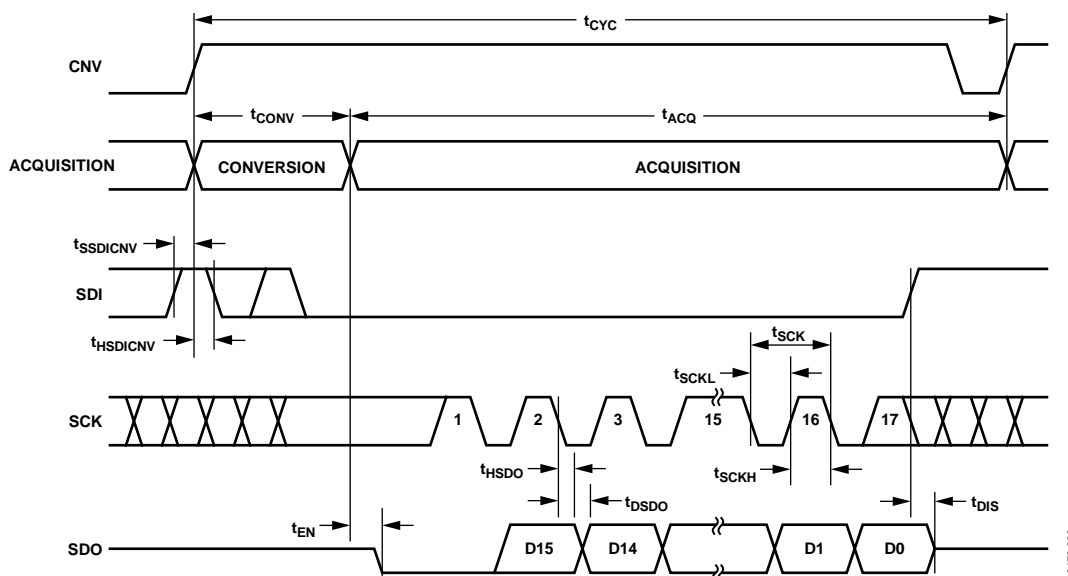
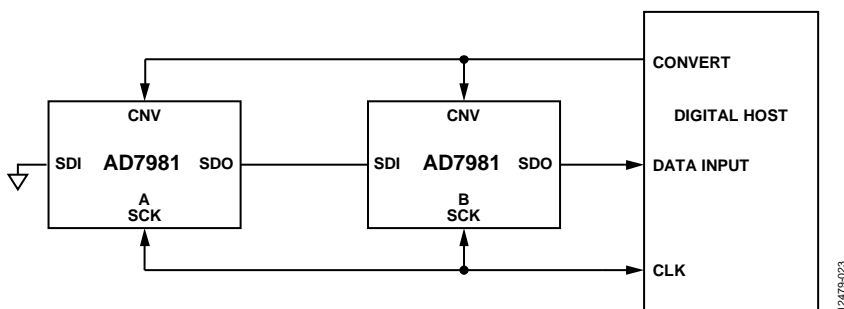

Figure 48. 4-Wire $\overline{\text{CS}}$ Mode with Busy Indicator Serial Interface Timing
Figure 49. Chain Mode Without Busy Indicator Connection Diagram
- In \overline{CS} mode if CNV or SDI is low when the ADC conversion ends (see Figure 45 and Figure 49, respectively).
The connection diagram is shown in Figure 48, and the corresponding timing is given in Figure 49.